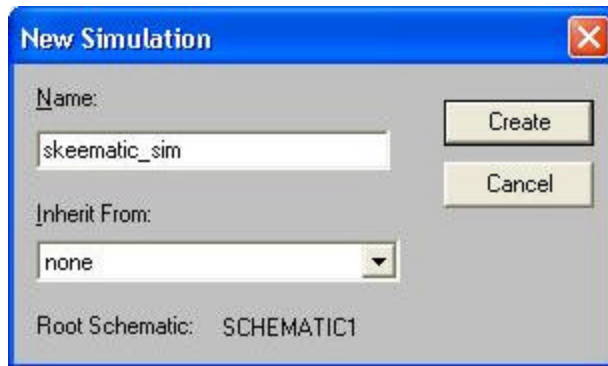
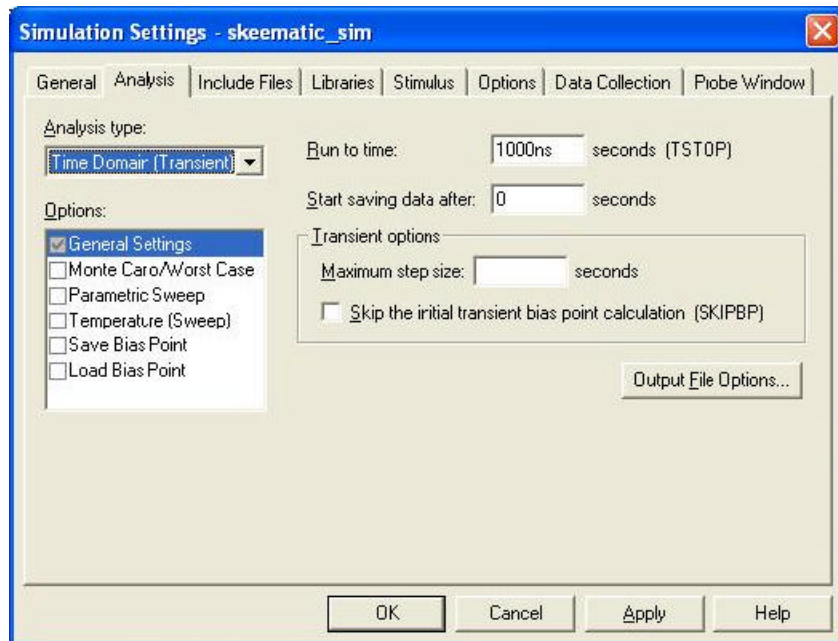

Figure 4 - Naming Simulation
Figure 5 - Simulation Settings
- a) After all desired components are in place, go to PSpice -> New Simulation Profile. (see Figure 4). Name your simulation profile and click on Create, then the “Simulation Settings” (see Figure 5) dialog will appear.